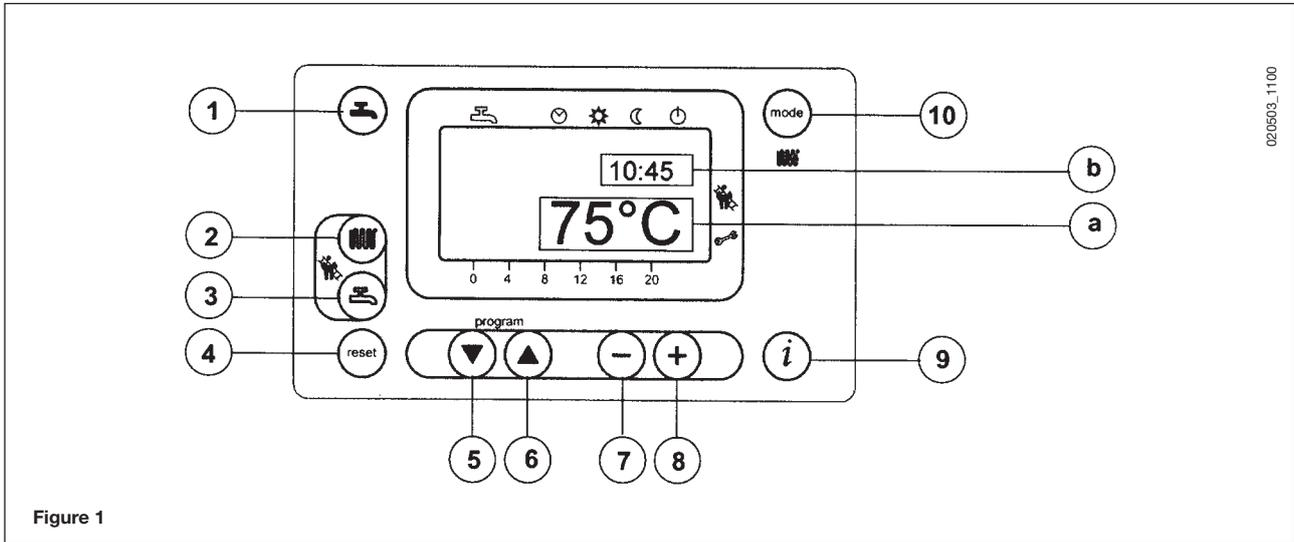
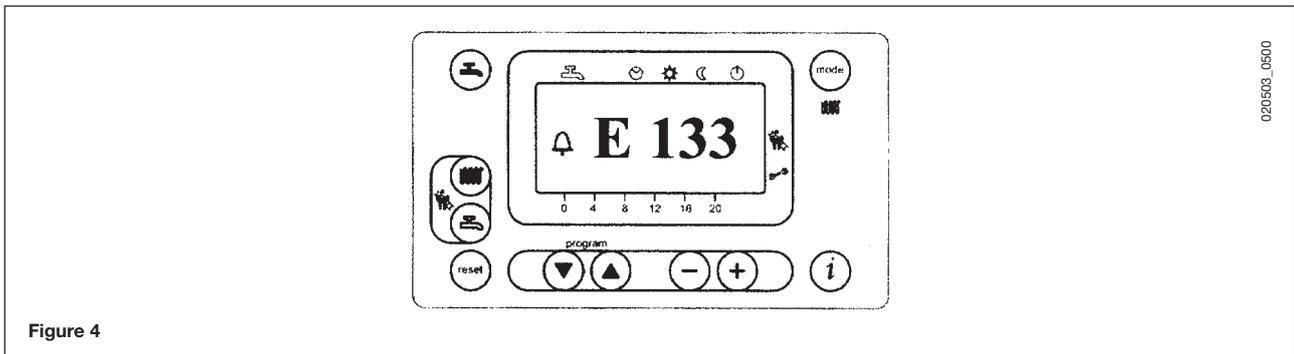
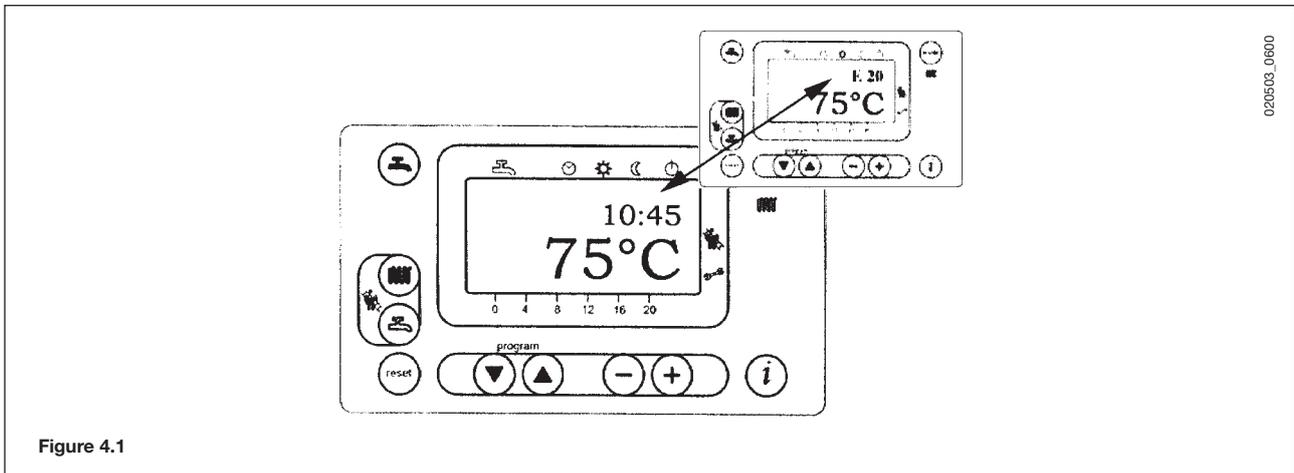

Figure 1
Figure 4
Figure 4.1
- Press the H key (2-figure 1) to set the central heating water temperature;
- press either of the H mode keys (1 or 10 - figure 1) to save and return to the main menu.
N.b – With the outdoor sensor probe connected, the H key (2 - figure 1) can be used to shift the central heating curve. Press the $-$ $+$ keys to decrease or increase the room temperature in the premises to be heated.
- Press the H key (3-figure 1) to set the maximum domestic hot water temperature;
The fault warnings appear on the main display (figure 1 a) together with the  symbol (Figure 4). To reset, press the reset  button for at least two seconds.
Fault warnings appear on the secondary display (figure 1 b) alternating with the time, both of them flashing (figure 4.1). It is not possible to reset malfunction warnings which appear on the secondary display as the cause of the alarm has first to be removed.